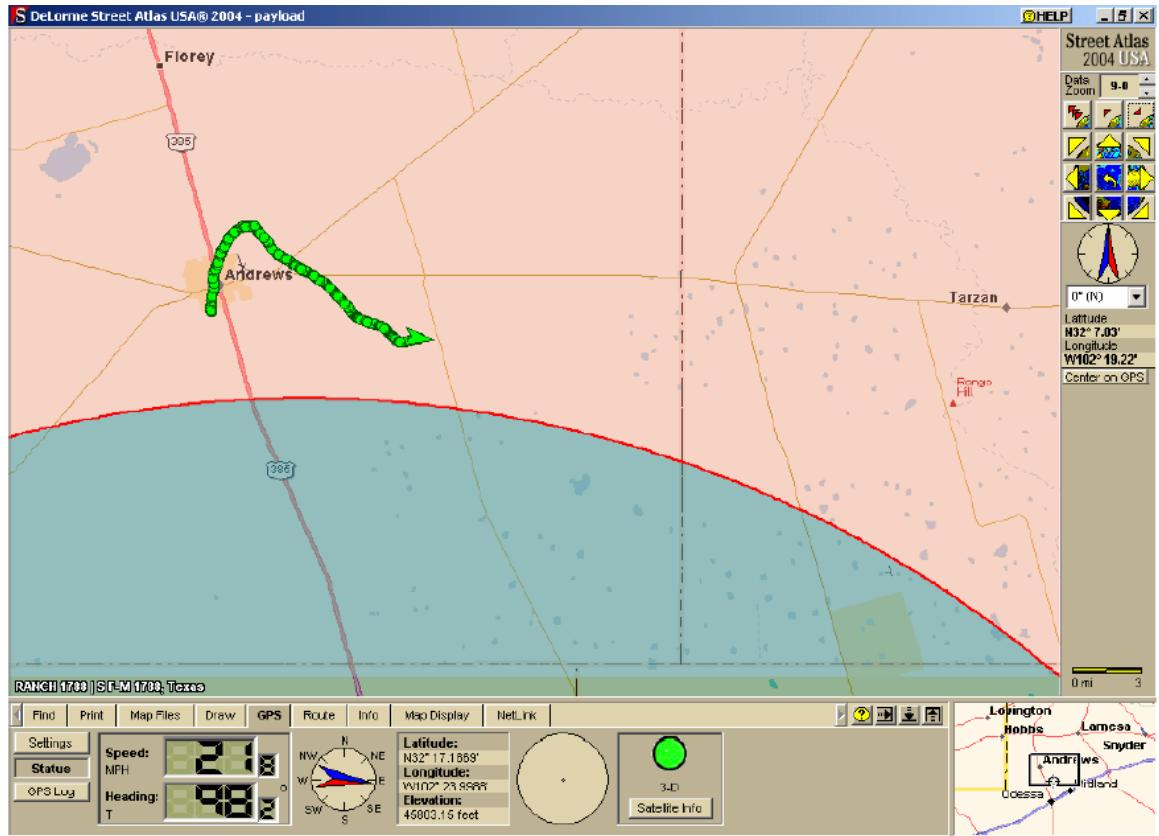

Figure 2.3 – Mapping Client Screen
- Start Delorme payload and predictor programs on mapping PC. The mapping client should look like figure 2.3 as shown above.